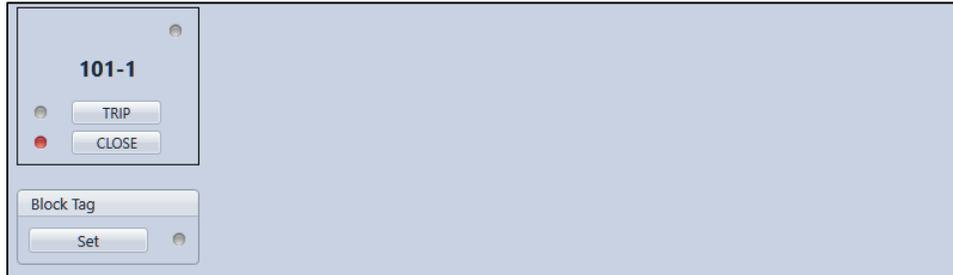

Figure 48-2. Breaker Control Switch Control Screen
1. Use the Metering Explorer to open the Control, Breaker Control Switch tree branch (Figure 48-2).